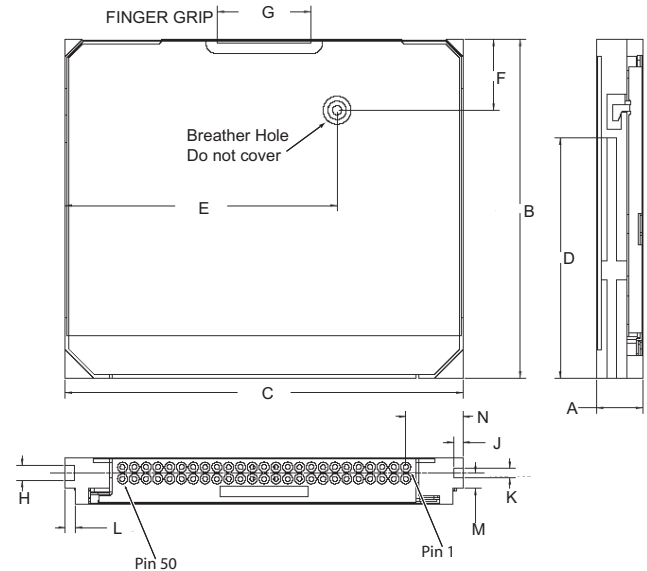
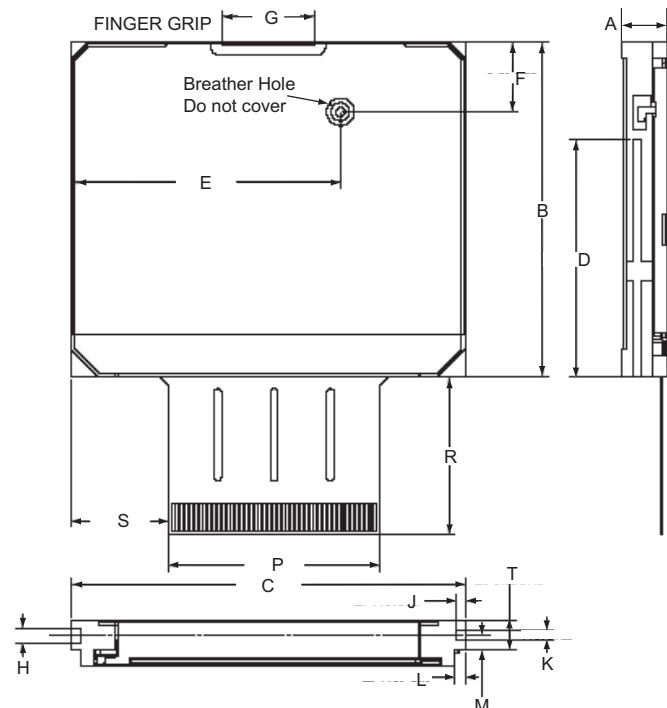

Figure 2 S1 Series - CF+ dimensions—end, top, and side views
Figure 3 S1 Series - FX dimensions—end, top, and side views
- Do not cover or otherwise obstruct the breather hole on the top of the drive. (See Figure 2 and Figure 3)
Note. This drive is designed for a product that supplies interface signals and +3.3V power through the compact flash connector. Refer to your consumer products manual to determine if your Seagate S1 Series disc drive is compatible. See Figure 2 for drive dimensions.
Follow installation instructions for media devices provided in your product's user manual to determine if your Seagate S1 Series disc drive is compatible. See Figure 3 for drive dimensions. Follow all handling precautions/electrostatic discharge protection suggestions when installing any drive.